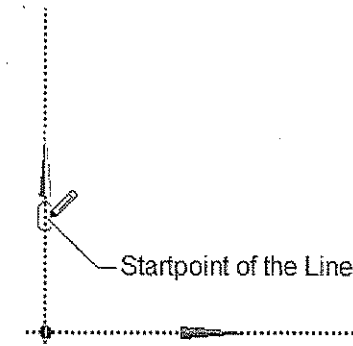

Figure 4-16 Specifying the start point of the line
7. Move the cursor near the origin in the **Graphics** window and then move it to some distance along the Y-axis and click while the symbol of Coincident constraint (C) is still displayed, refer to Figure 4-16.